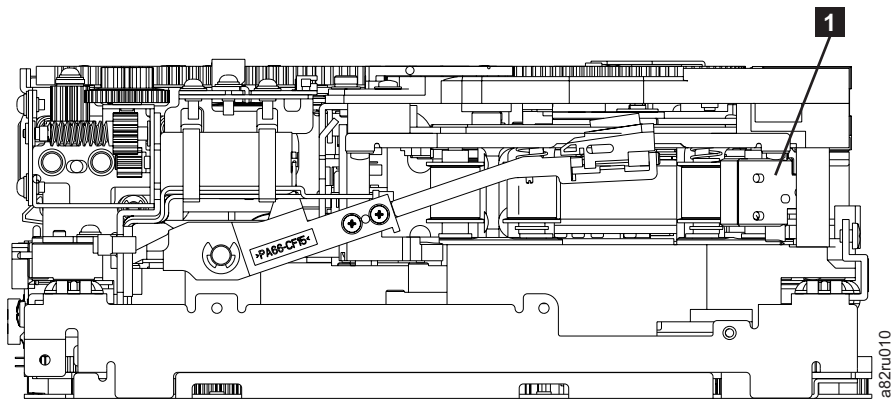

Figure 8-93. Leader Block Assembly (LBA)
9. Rotate the threader motor worm gear (**4** in Figure 8-92 on page 8-93) to turn the threader mechanism gear (**6** in Figure 8-92 on page 8-93) counterclockwise. This moves the LBA out of the cartridge and past the read/write head. Stop this rotation when the LBA is near the tape guide roller nearest the rear of the drive shown as **1** Figure 8-93.